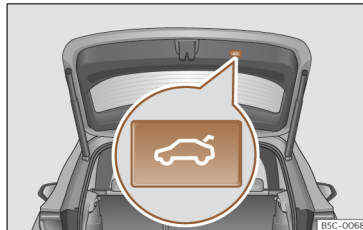

Fig. 79 Rear lid: button for closing the rear lid.
- Briefly press the  button on the rear lid >>> **Fig. 79**, >>>  in *Introduction* on page 105.
Throughout the process of opening or closing the rear lid, audible warnings can be heard. *Exception:* when the rear lid is opened manually using the handle or the Easy Open function with a foot movement or closed using the button on the rear lid itself >>> **Fig. 79**.
- Press the  button >>> **Fig. 79** on the rear lid for at least 3 seconds.